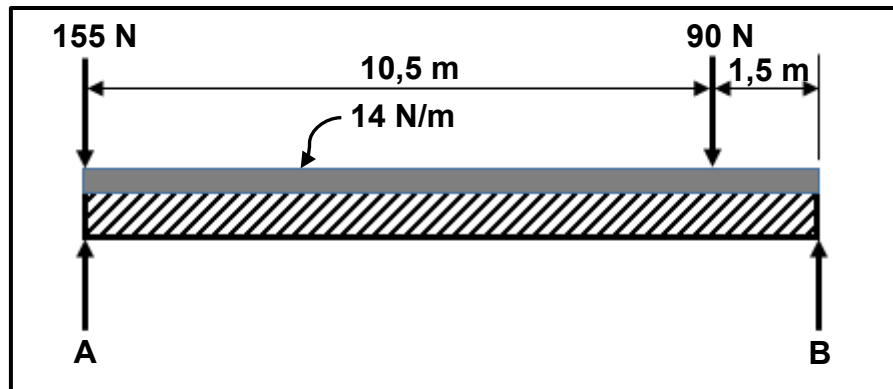

FIGURE 8.2
8.2 FIGURE 8.2 below shows a uniform beam that is supported by two vertical supports, **A** and **B**. TWO vertical point loads and ONE uniformly distributed load (UDL) are exerted onto the beam.